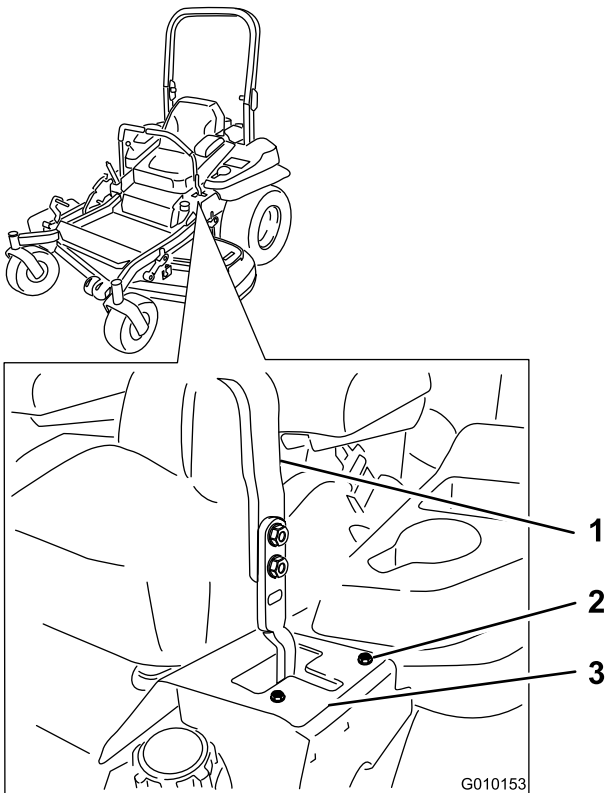

Figure 61
- If the machine tracks to the right, loosen the bolts and adjust the left stop plate rearward on the left T-slot until the machine tracks straight (Figure 61).
- If the machine tracks to the left, loosen the bolts and adjust the right stop plate rearward on the right T-slot until the machine tracks straight (Figure 61).
8. Tighten the stop plate (Figure 61).